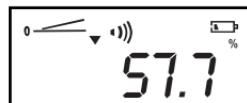

Figure 5
4. Press the \angle° **In/Ft** button again to get the slope of the surface $H=57.7$ cm ($H=L \cdot \tan \alpha$, $L=100$ cm, $\alpha=30.0^{\circ}$), as shown in Figures 5 and 6.